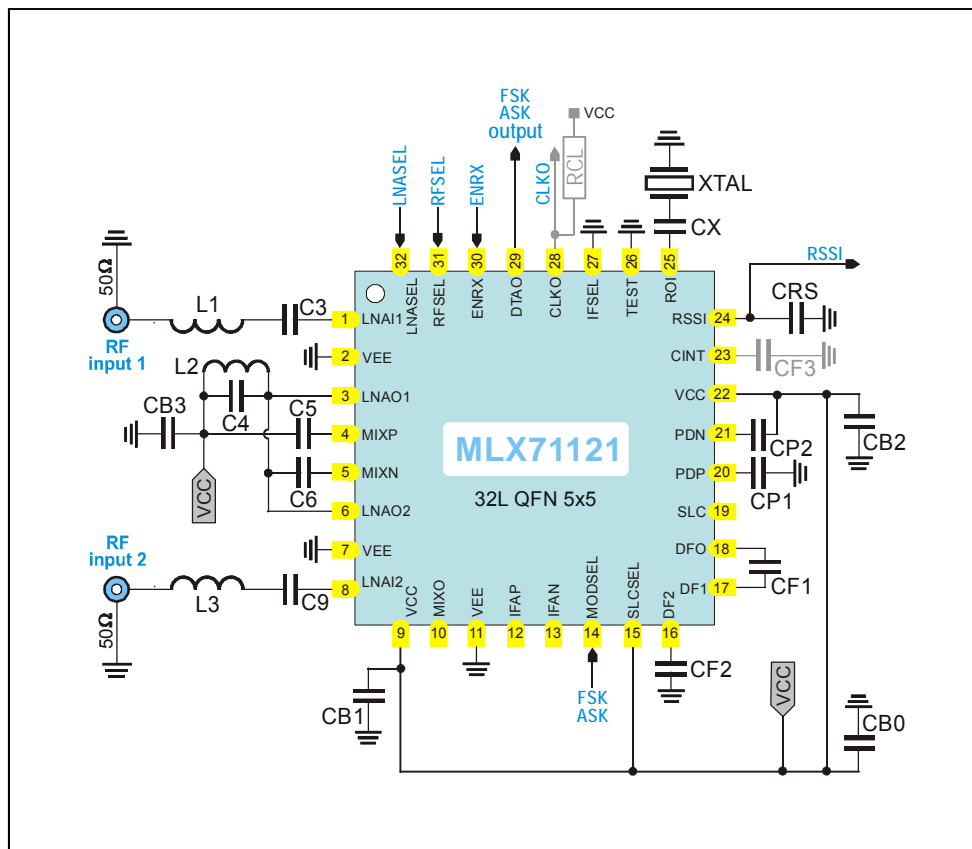

Fig. 11: Antenna diversity circuit schematic, peak detectors activated
typical values at $T_A = 23^\circ\text{C}$ and $V_{CC} = 3\text{ V}$, all parameters based on test circuits as shown Fig. 11
typical values at $T_A = 23^\circ\text{C}$ and $V_{CC} = 3\text{V}$, all parameters based on test circuits as shown Fig. 11
5.1.1 Component List for Fig. 11